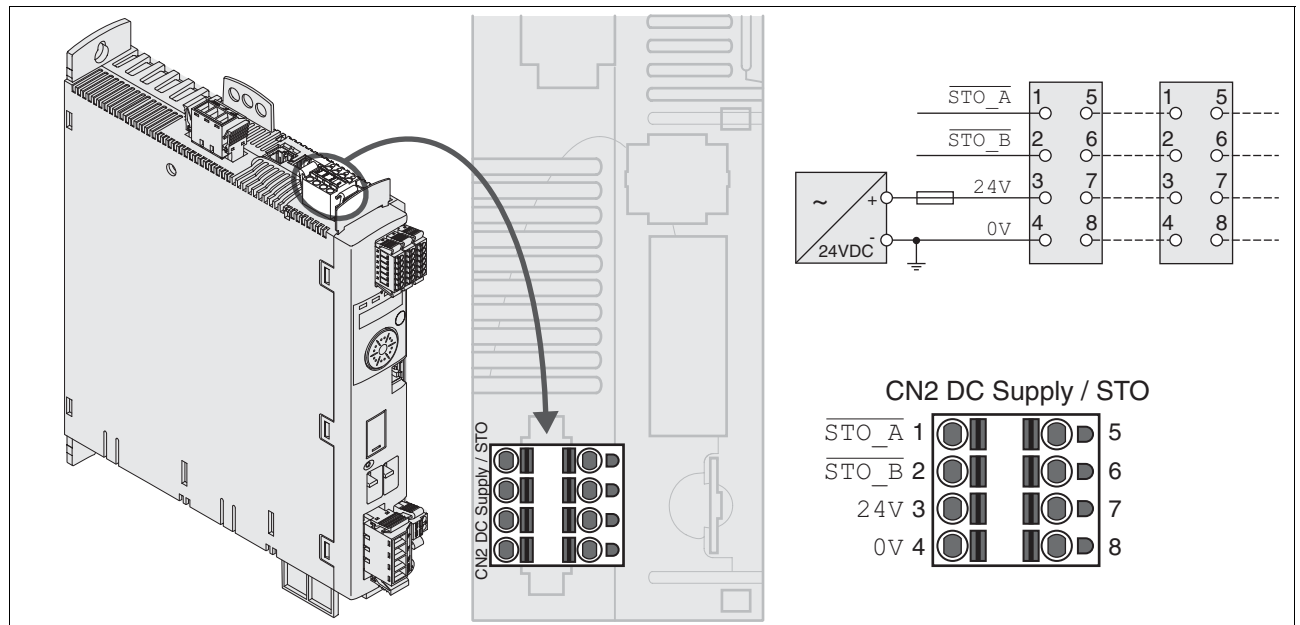

Figure 6.13 Wiring diagram controller supply voltage
- Connection CN2, pins 3 and 7 as well as CN2, pins 4 and 8 (see Figure 6.13) can be used as 24V/0V connections for additional consumers.¹ Note the maximum permissible terminal current ("Properties of spring terminal CN2").